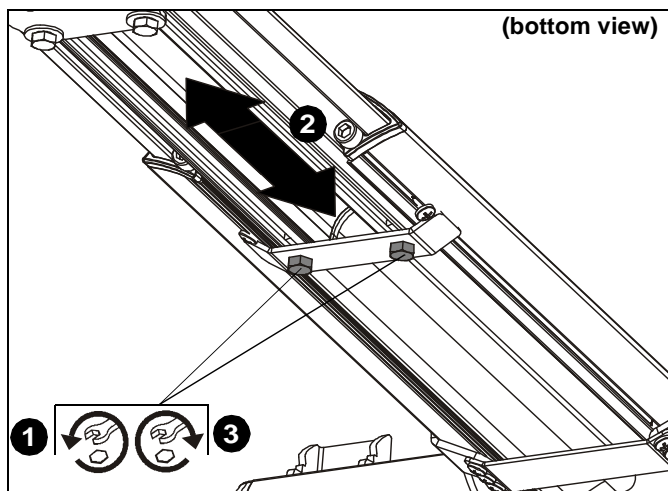

Figure 65
1. Loosen two bolts holding stop bracket in place on underside of short throw projector mount. (See Figure 65)
2. Adjust mount to desired extension length. (See Figure 65)
3. Tighten two bolts holding stop bracket to secure mount in desired position. (See Figure 65)